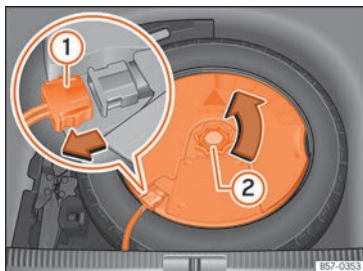

Fig. 214 In the luggage compartment: remove the subwoofer.
- Disconnect the subwoofer »» Fig. 214 ①
- Turn the securing wheel in an anti-clockwise direction »» Fig. 214 ②.